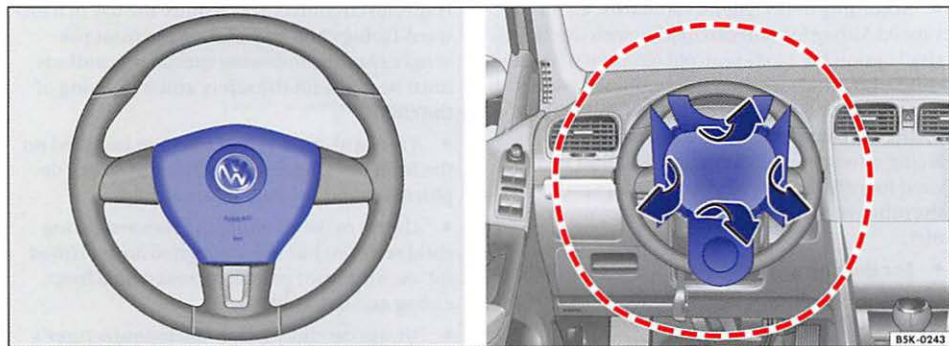
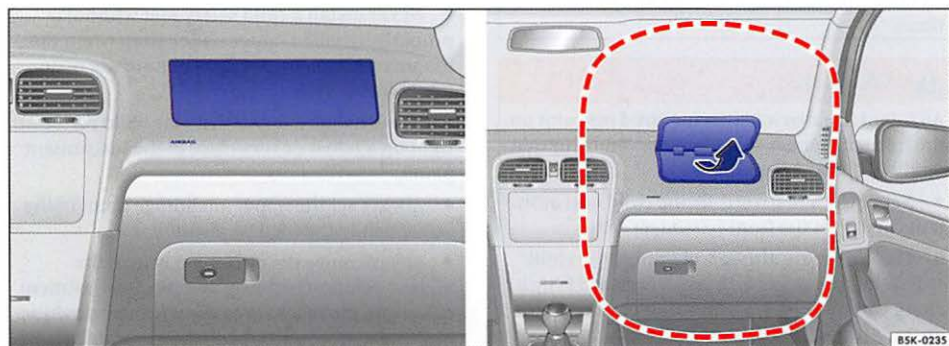

Fig. 59 Location and deployment zone of the driver front airbag.
Fig. 60 Location and deployment zone of the passenger front airbag.
The vehicle is equipped with an Advanced Airbag System in compliance with the United States Federal Motor Vehicle Safety Standard (FMVSS) 208 or the Canada Motor Vehicle Safety Standard (CMVSS) 208 applicable at the time your vehicle was manufactured. The airbag for the driver is in the steering wheel hub $\Rightarrow$ fig. 59 and the airbag for the front passenger is in the instrument panel $\Rightarrow$ fig. 60. The general location of the airbags is marked "AIRBAG".
The areas marked in red (dotted lines) $\Rightarrow$ page 90, fig. 59 or $\Rightarrow$ page 90, fig. 60 indicate the airbag deployment zone. Never place or attach accessories or other objects (such as cup holders, telephone brackets, note pads, navigation systems, large,
- Never place accessories or other objects (such as cup holders, telephone brackets, note pads, navigation systems, or things that are large, heavy, or bulky) on the doors; never attach them to the doors or the windshield; never place them over or near or attach them to the area marked "AIRBAG" on the steering wheel, instrument panel or the seat backrests; never place them between these areas and you or any other person in the vehicle → page 90, fig. 59 or → page 91, fig. 60.